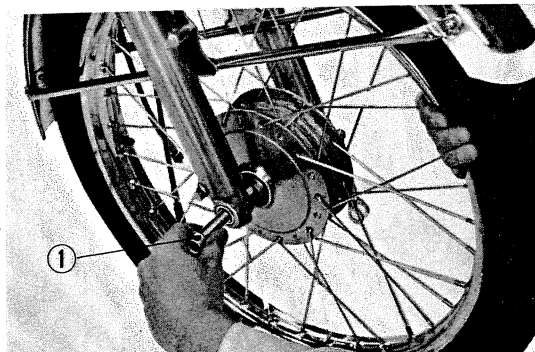

Fig. 100 Front wheel removal
- 4) Remove front wheel axle nut, extract the front wheel axle and then drop the wheel (Fig. 100)